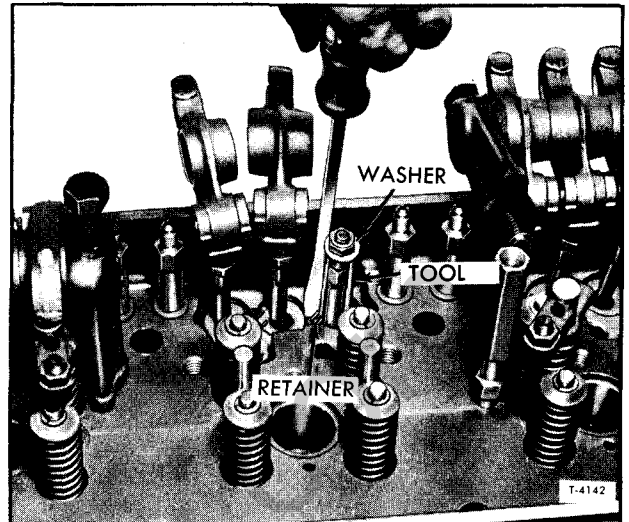

Figure 21—Tool Application for Replacing Push Rod
5. Assemble special tool (J-3092-01), flat washer, and nut as shown in figure 21, at push rod to be removed. Tighten push rod nut against washer until tension on push rod spring retainer is relieved. Use screwdriver in manner shown (fig. 21) to pry retainer ring out of groove in cylinder head.
7. Assemble spring and spring seat on push rod and use tool (J-3092-01) with flat washer (fig. 21) and nut to compress push rod spring.